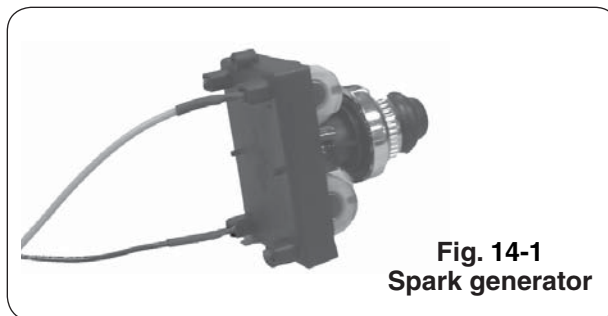

Fig. 14-1
- c. Carefully pull the left end of the backburner forward until the burner can be moved to the left pulling it free from the orifice located on the right side (see Fig. 14-1).
**Note:** Carefully, lift the face away from the frame. The spark generator for the ignition system is attached to the inside of the face panel. The spark generator knob need not be detached, but the wires must be unplugged from the generator before the face is completely removed (see Fig. 14-1).